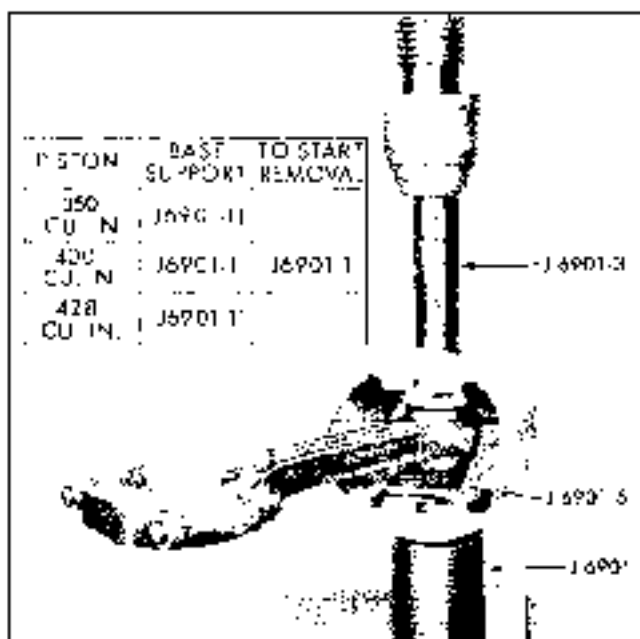

Fig. 6-115 Removing Piston Pin
2. Using a suitable arbor press place the spring and plunger into the bore of the base support and position on an arbor press with the pilot plunger indexed in the bottom of piston pin bore. See Fig. 6-115 insert for correct base support and pilot plunger for the type pistons being serviced.
3. Using the pilot plunger (or plate) indicated in Fig. 6-115, the pin may be pressed out far enough to index with the bore in the base.